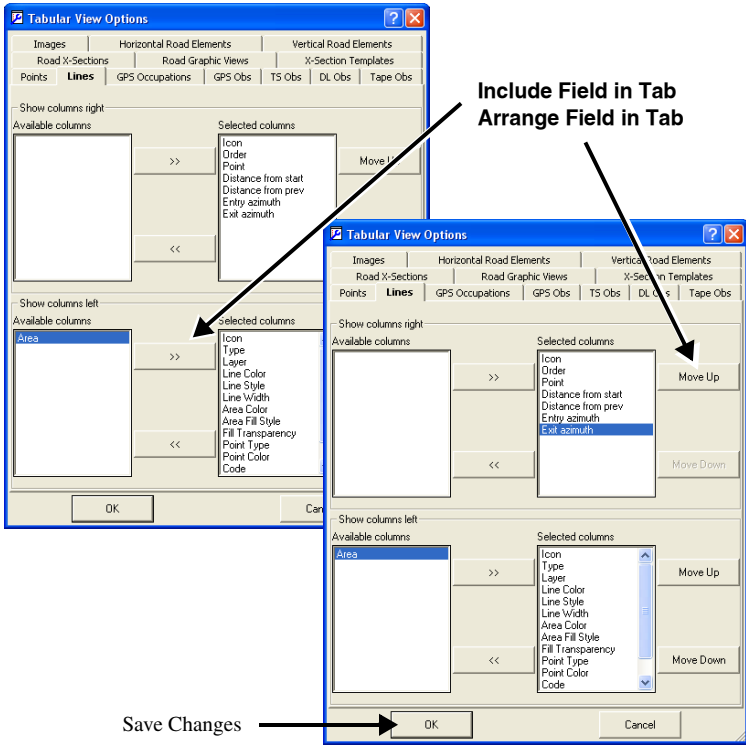

Figure 3-18. Lines Tab Options – Editing Data Columns
2. For most of the tabs, select the desired field and use the following buttons to set up the data columns. Figure 3-18 on page 3-21 uses the Lines Tab options as an example.
Table 3-2 shows an example of, and the default settings for, each of the Tabular View options tabs. See Figure 3-18 on page 3-21 for an example of the Lines options tab.